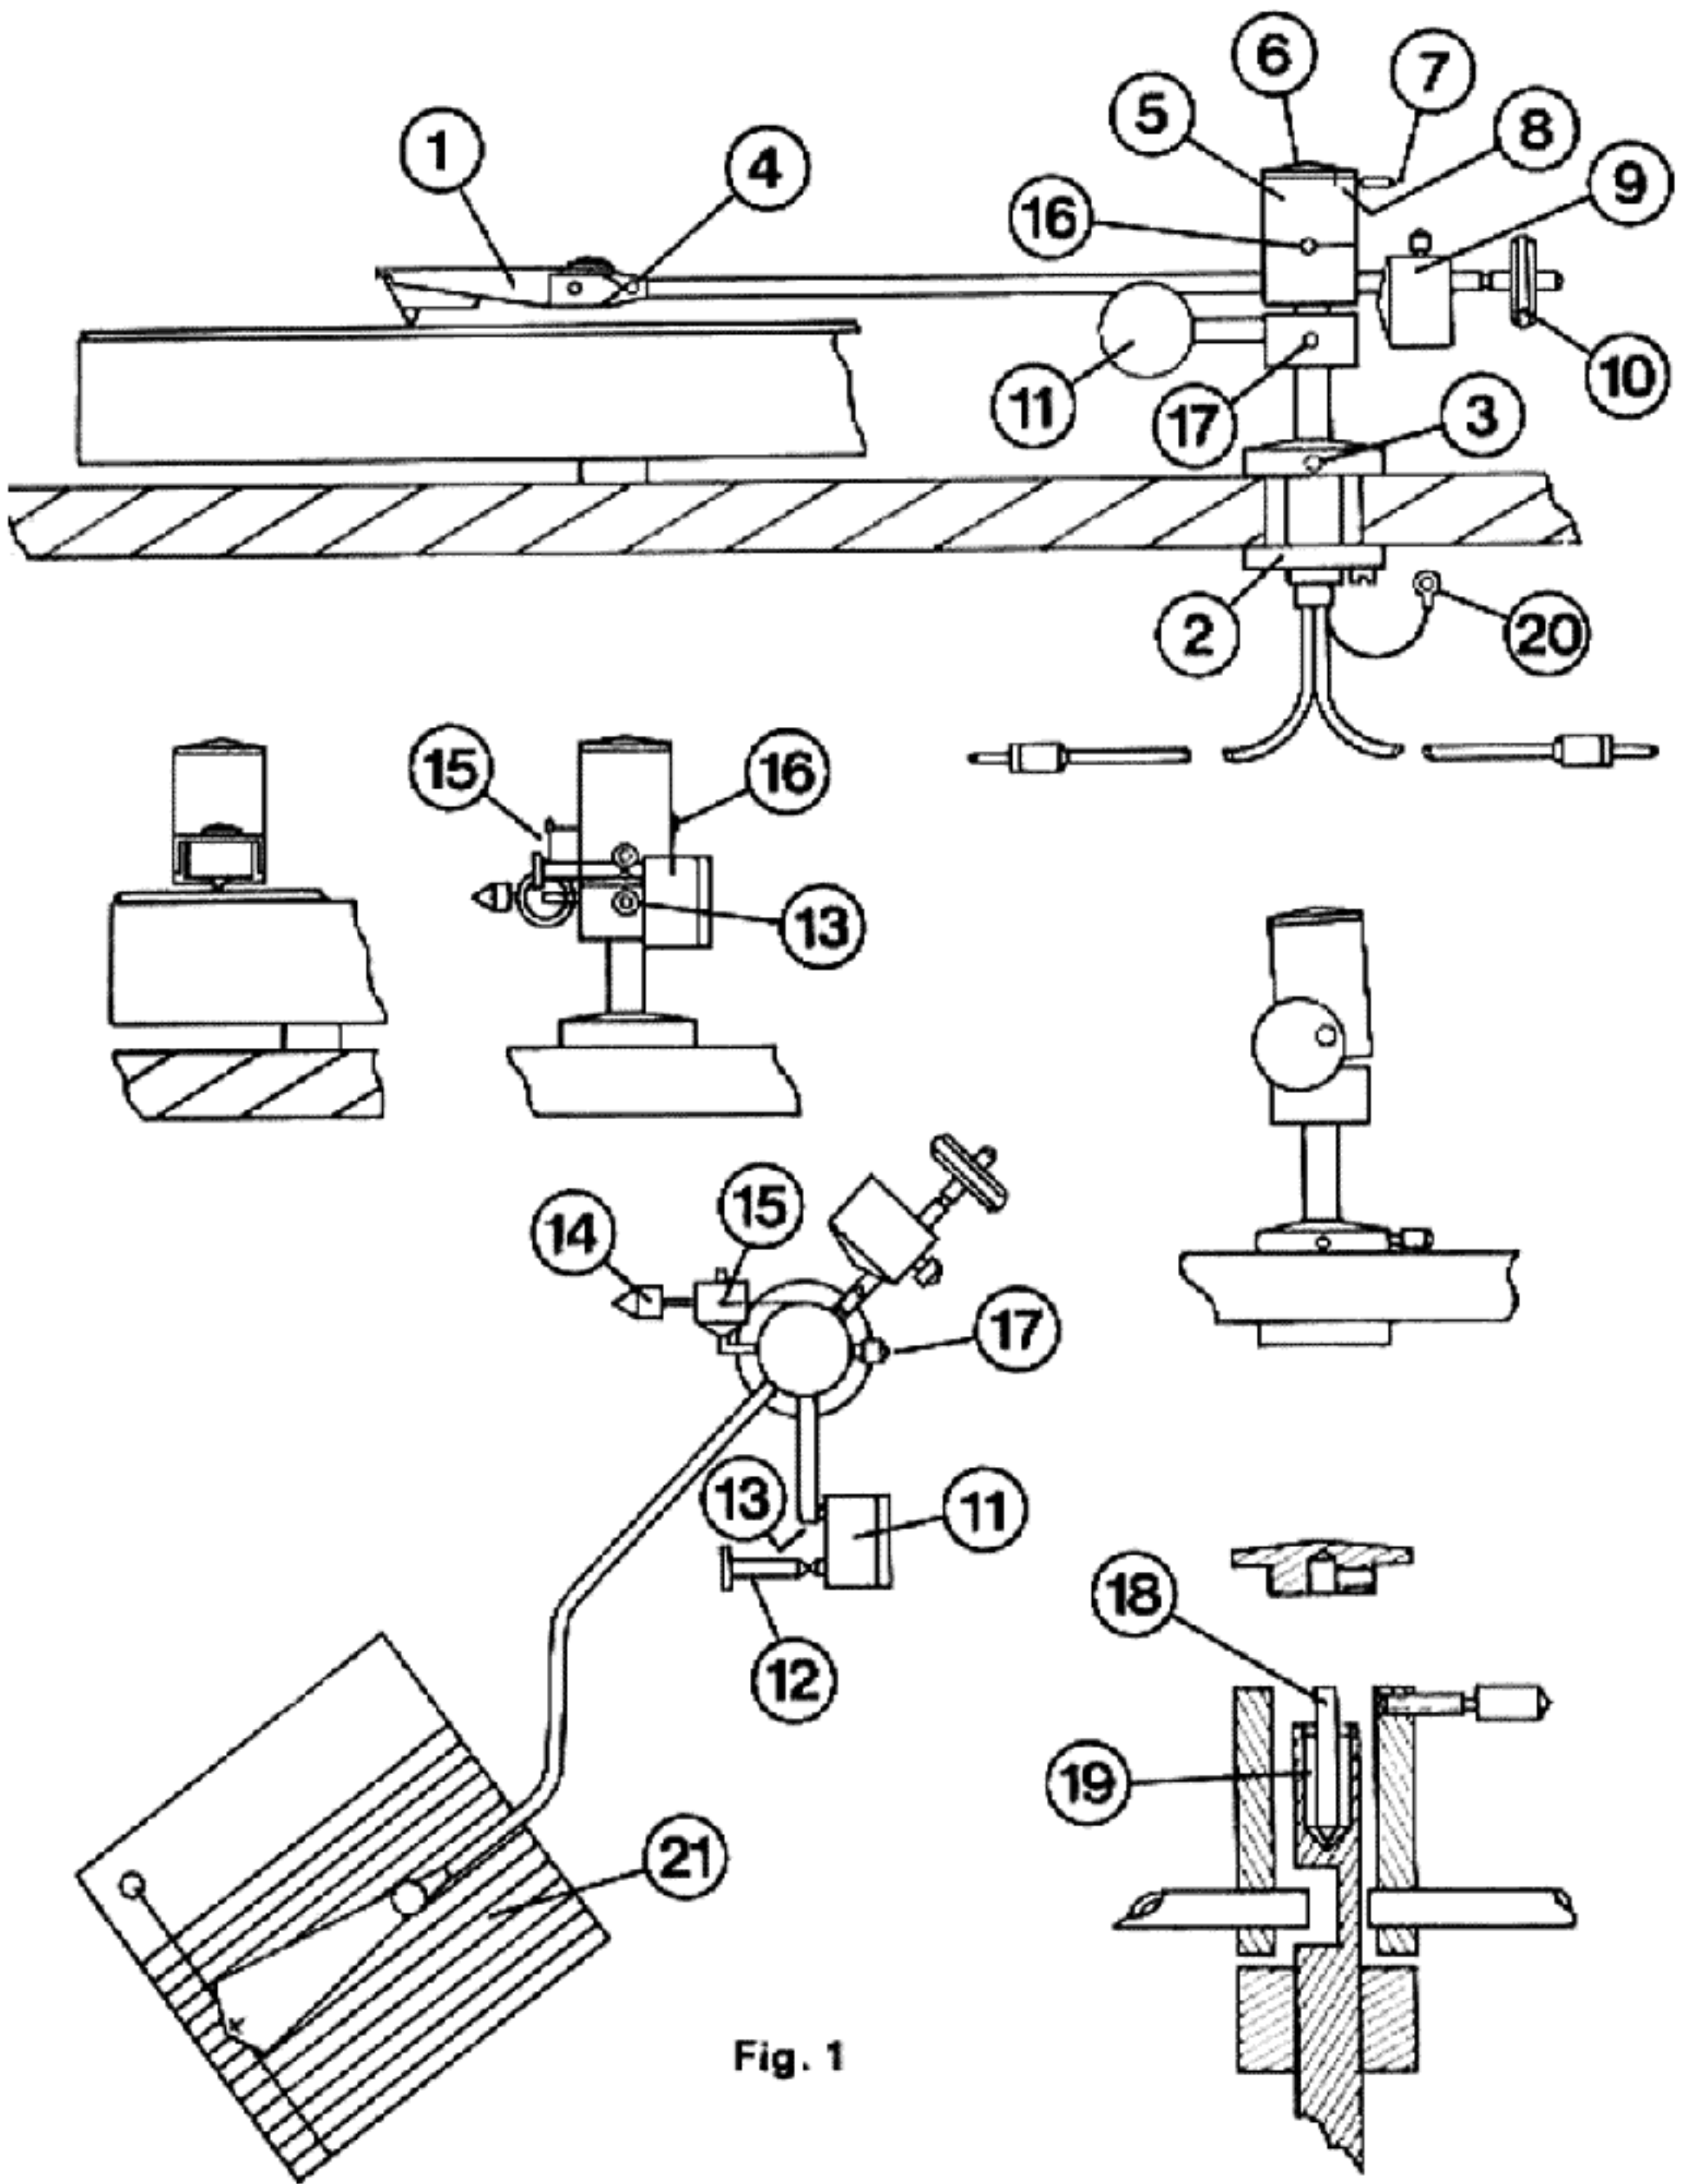

Fig. 1
- 1 Remove the headshell, fig. 1(1) by slackening its knurled retaining nut, supporting the arm with one hand and pulling the headshell off with the other. Fit the cartridge, connecting the terminal wires as marked on the cartridge and underneath the headshell. Refit the headshell to the arm.
- 2** Temporarily fit the platter, fig. 4(1), to its centre spindle, place a record on the platter and fit the template protractor fig. 1(21), to the centre spindle. With the stylus tip resting on the point marked —O—, the arm should be mounted so as to ensure that the front part of the arm tube and the headshell are parallel to the lines on the protractor. Mark the Fluid Arm mounting hole centre, remembering that although the hole can be in any convenient position around the platter, it must be possible to close the perspex cover without fouling the counterweight overhang.
- 4** Fit the Fluid Arm to the tone arm board. The base nut assembly, fig. 1(2), should be "finger tight" only.
- 5** Connect the earth tag, fig. 1(20), to the screw on the lower base nut.
- 2** Place a record on the platter and fit the template protractor, fig. 1(21), to the platter centre spindle. With the stylus tip resting on the point marked —O—, move the Fluid Arm in its fixing hole so as to ensure that the front part of the arm tube and the headshell are parallel to the lines on the protractor. Tighten the base nut, fig. 1(2), "finger tight".
- 3** Slacken the height adjustment screw, fig. 1(3), in the base nut assembly and adjust the height of the arm tube so that it is parallel to the record when playing. Tighten the height adjustment screw.
- 4** Fit the eccentric counterweight, fig. 1(9), on the arm between the helmet, fig. 1(5), and the screwed counterweight fig. 1(10), and then move the counterweight forward or backward to obtain static balance. Rotate the counterweight to obtain lateral balance so that the helmet runs vertically whilst playing.
- 5** Using the TRANSCRIPTOR Stylus Scales (see operating instructions below), adjust the screwed counterweight, fig. 1(10), to obtain the correct tracking weight as stated by the cartridge manufacturer (always use the lowest stated tracking weight).
- Using the template protractor, make a final adjustment for tracking error. Fine adjustment can be made by means of the set screw, fig. 1 (4), at the end of the arm. This screw provides radial and slight longitudinal adjustment and care must be taken to ensure that after any adjustment the top of the headshell is still parallel in both planes with respect to the record, with the helmet, fig. 1 (5), held in a vertical position (i.e. normal playing condition).
- Note the position of the index marks, fig. 1 (8), on the helmet cap, fig. 1 (6), and helmet, fig. 1 (5), remove the helmet cap retaining screw, fig. 1 (7), and then lift out the helmet cap. With the pivot, fig. 1 (18), still in position, fill the fluid well, fig. 1 (19), from the small bottle of fluid to about  $\frac{1}{16}$  in. (1.5 mm) below the rim of the well (this is best performed by first warming the bottle in hot water and using an eye-dropper or similar device). Carefully refit the helmet cap, realigning the index marks and refitting the retaining screw. Ensure that the screw passes through the hole in the helmet cap and bears against the top of the pivot.
- Place the Fluid Arm assembly in its normal rest position, with the arm supported in the groove on the lowering handwheel cradle, fig. 1 (12).
- Connect the adjustable bias weight, fig. 1 (14), to the helmet with cotton thread. One end of the thread connects to the split pin, fig. 1 (15), and the other end to the screw, fig. 1 (16), on the side of the helmet. With the arm in the rest position, the bias weight must be horizontal.
With the arm resting in the groove on the lowering handwheel cradle, fig. 1(12), and the lowering handwheel, fig. 1(11), in its raised position, swing the entire assembly around until the desired position on the record is reached. Turn the handwheel in a counter-clockwise direction until a point is reached when it will lower automatically. If required, however, the hydraulic action of the handwheel can be over-ridden and it can be manually rotated instead. Once the stylus is on the record, swing the assembly back towards the front again in order to ensure correct bias compensation.
To lift the stylus off the record, swing the assembly in again and lift the arm on the larger diameter section of the cradle (not in the groove as this may cause a sideways force on the stylus). Once lifted, slide the arm into the cradle groove and swing the entire assembly back to the normal rest position. Positioning damping is provided by means of a knurled screw, fig. 1(17).
The lowering handwheel swings over an arc of approximately 90°. If required, this arc can be reset by adjusting a set screw, fig. 1(13), and moving the handwheel over the desired arc.